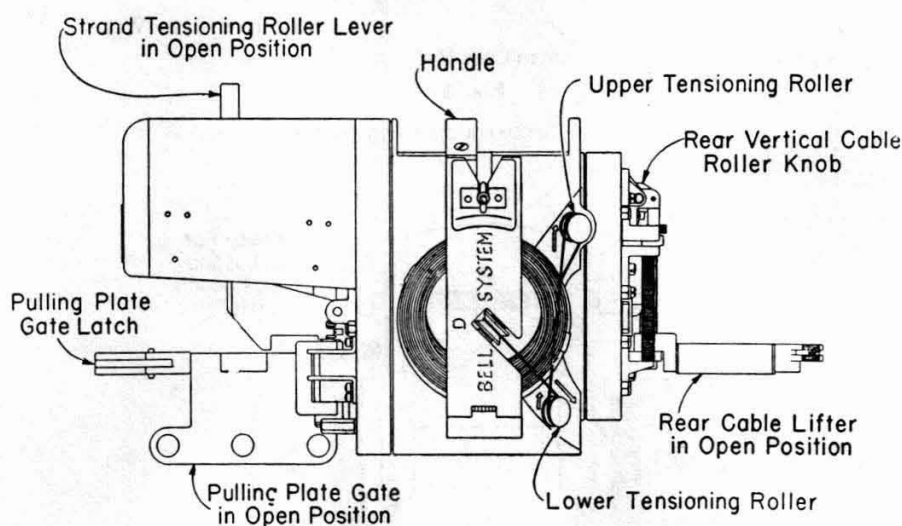

Fig. 1
2.01 The D Cable Lasher weighs approximately 38 pounds without lashing wire. It uses 045 C Steel Lashing Wire and lashes aerial cables up to full size on suspension strands up to and including 25,000-pound strand. The lasher has two lashing wire magazines, and snubbing pulleys for tensioning the wire. The coils of lashing wire are held stationary and the wire is fed from the center (inside end) of the coil through a throated hole before it is threaded around the snubbing pulleys. See Figs. 1, 2 and 3.